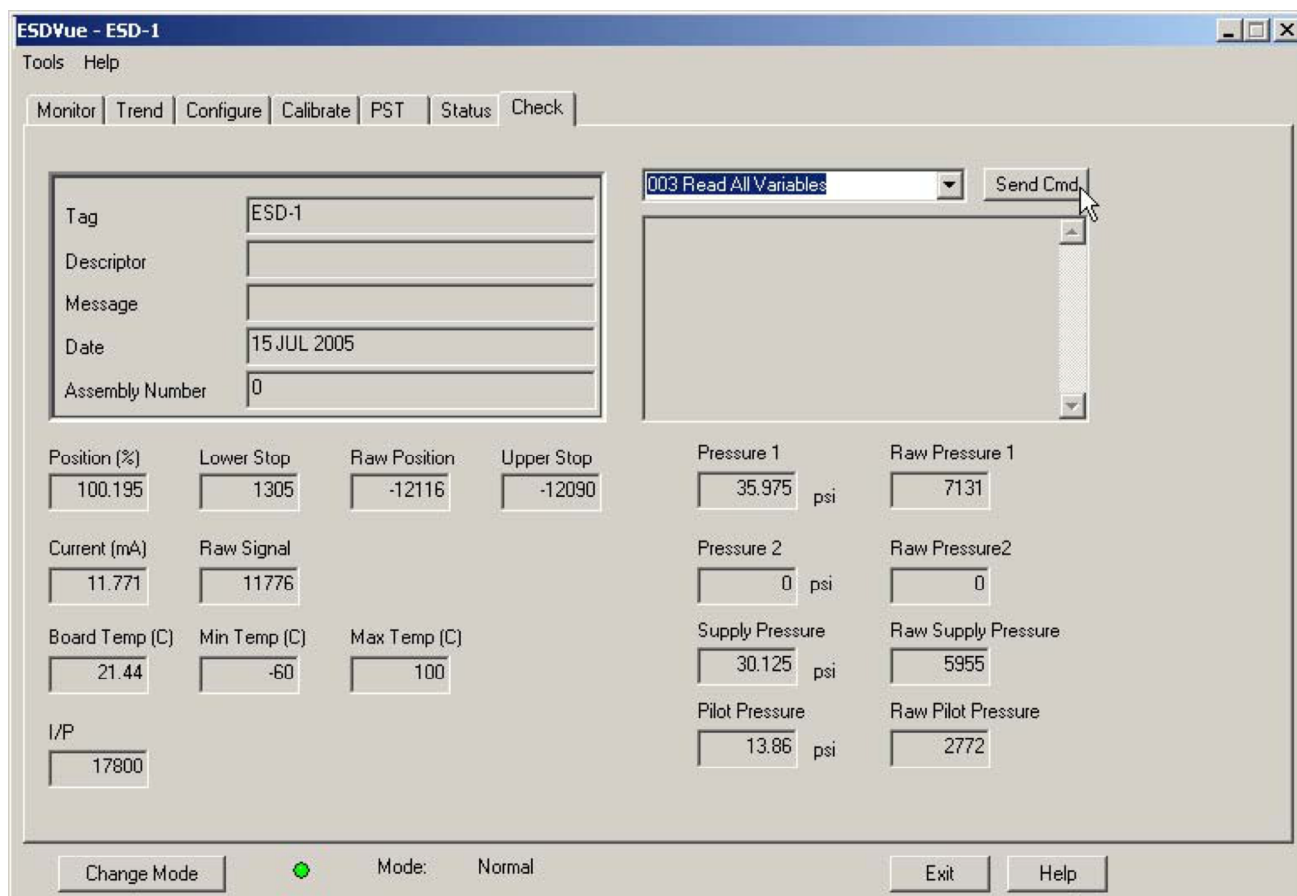

Figure 319 - Executing Send Command
2. Scroll through and select the command for execution and click **Send Cmd** (*Figure 319*).